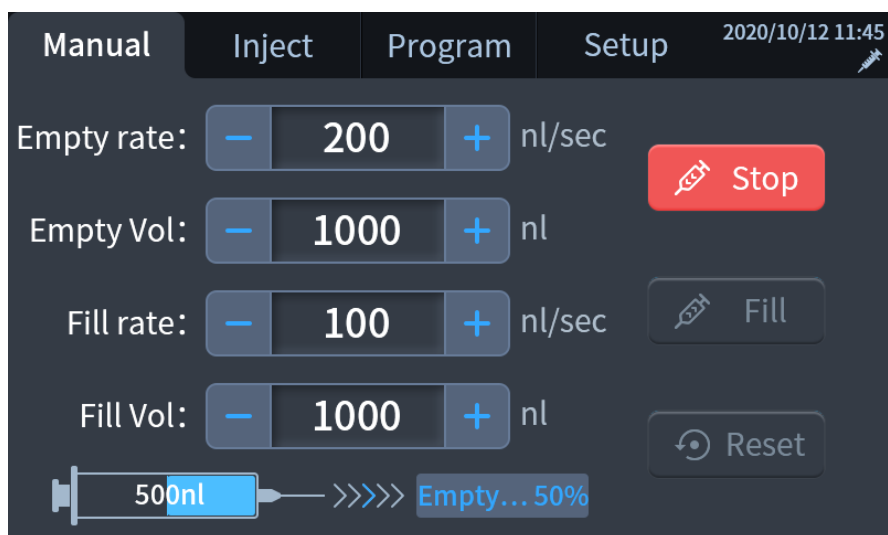

Figure 6-2
- 1) Click  to empty the backfilled mineral oil in the electrode to the target volume at the empty rate, as shown in Figure 6-2 to display the emptying progress in real time.